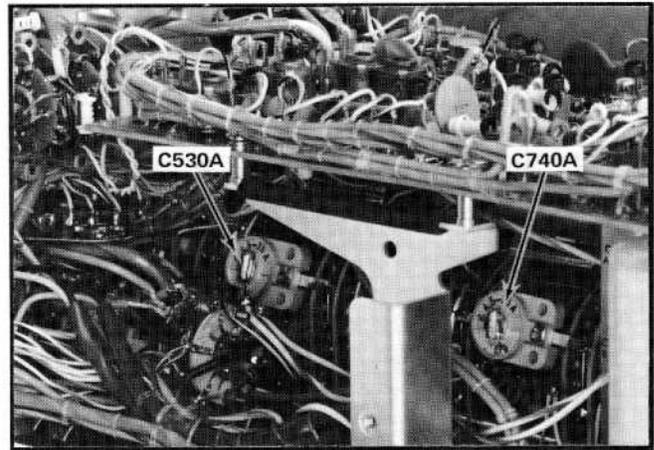

Fig. 5-15. Location of one-microsecond timing adjustments (behind swing-out side panel).
e. ADJUST—C530A (behind swing-out side panel; see Fig. 5-15) for one marker each division (use low-capacitance screwdriver).
i. ADJUST—C740A (see Fig. 5-15) for one marker each division (use low-capacitance screwdriver).